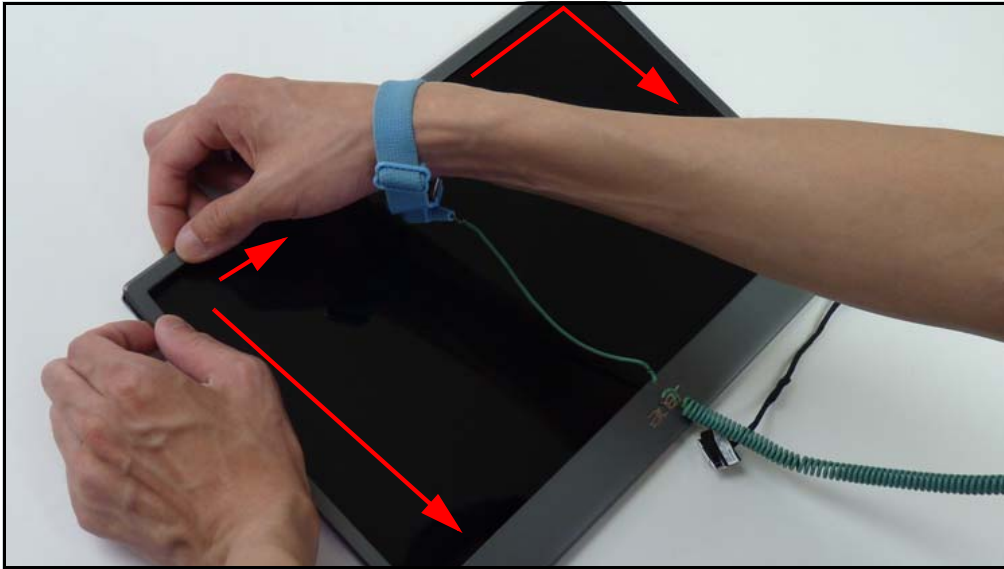

Figure 3-1. LCD Bezel Removal
3. Continue to remove the bezel as shown (Figure 3-1).